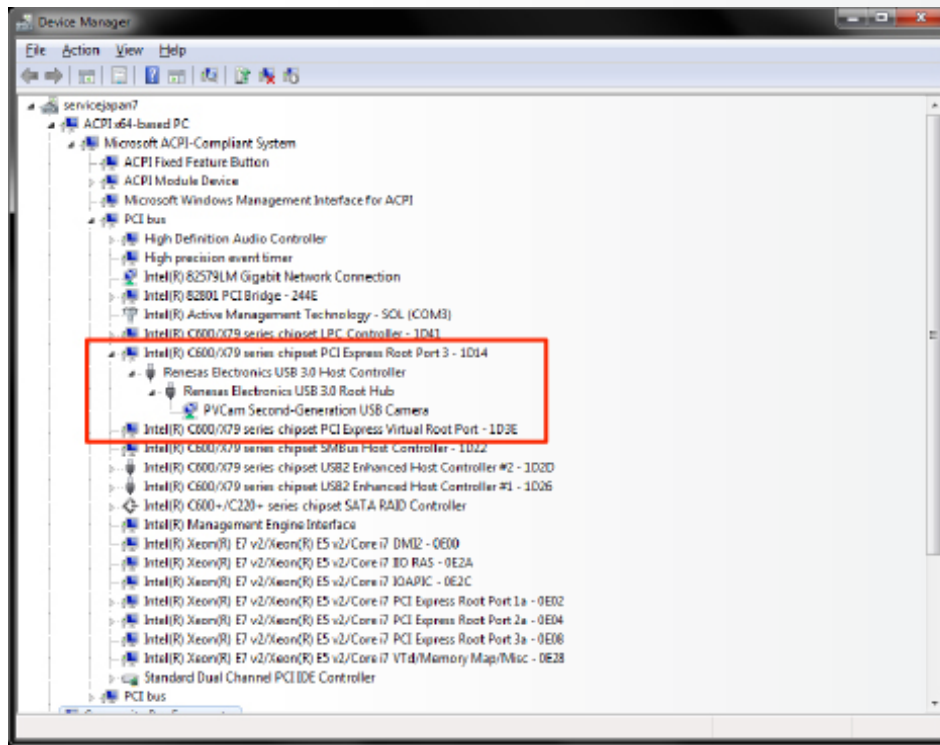

Figure 2. Photometrics USB3 camera is the only device on its USB Root Hub.
Series camera should be connected to a USB 3.0 port. It should also be the only device on its USB root hub controller (see Figure 2 below). Please see the following section on how to select the appropriate USB port for optimum camera performance. This ensures the maximum bus bandwidth is available to the camera for data transfers. USB 3.0 ports are often (but not always) identifiable by a blue internal socket or the “SuperSpeed” (or just “SS”) USB logo.
3. According to Figure 2, find the USB host controllers, expand them, and check whether your camera is the only device connected to the Root Hub.